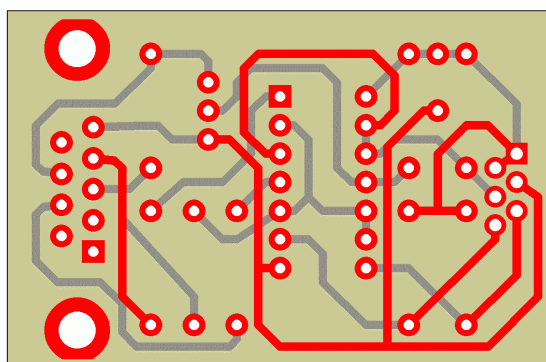

Figure 8. Printed Circuit Board Cut from Panel of Four
4. PRINTED CIRCUIT CONSTRUCTION. Attached to this article is a printed circuit board file (ExpressPCB format) entitled Serial4Panel.pcb. It is layed out as a panel of four boards on ExpressPCB's standard 2.50" x 3.80" Miniboard, so that a standard order for three Miniboards (\$59 including shipping, as of this date) provides 12 boards when cut apart. Figure 8 shows an example of an individual board, with red traces on the top (component) side, gray traces on the bottom (solder) side, and plated-through holes.